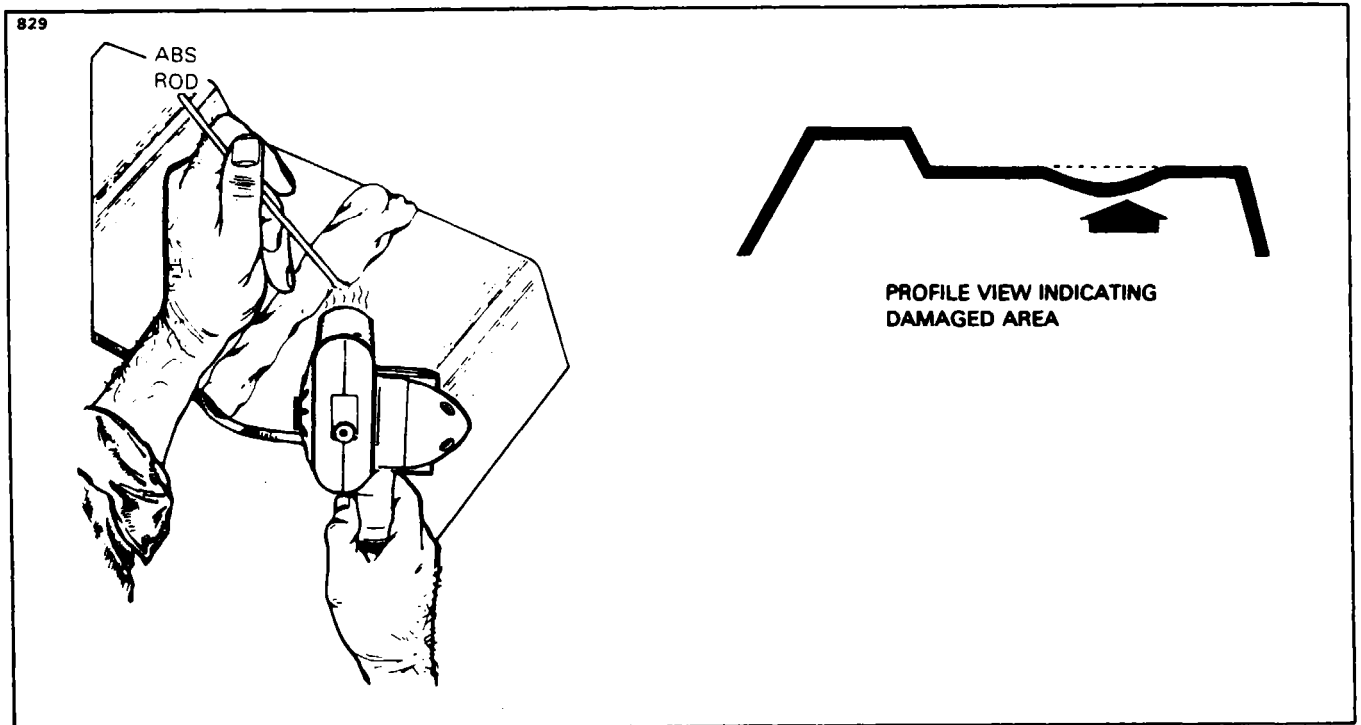

Figure 4-16. Repair of Impacted Damage
A. Stress lines produce a whitened appearance in a localized area and generally emanate from the severe bending or impacting of the material. (Refer to Figure 4-16.)